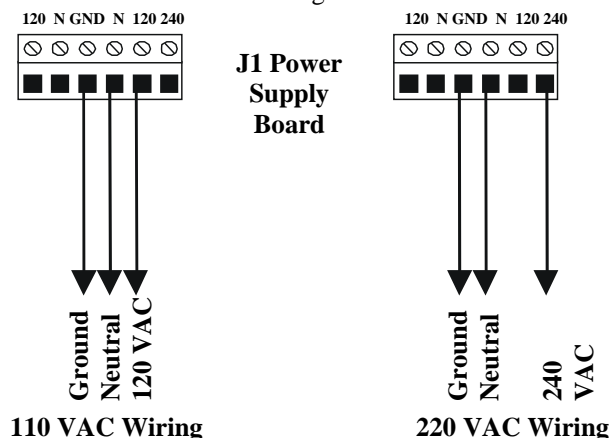

Figure 4.1 Input Power Connections
5. Wire the power to J1 input power connector. The connections are Ground (GND), Neutral (N) and 120 or 220 VAC 50-60 Hz. See Figure 4-1. Input Power Connections.